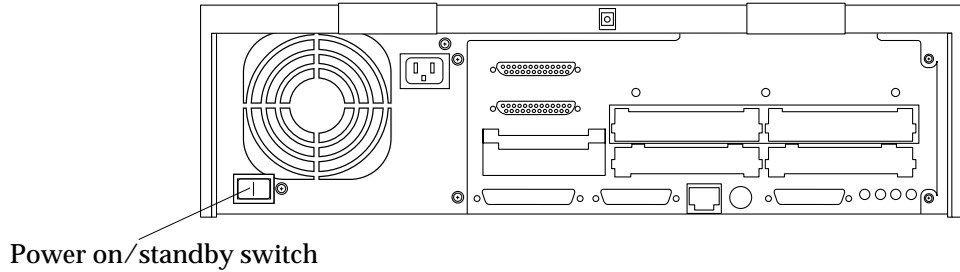

FIGURE 2-1 Rear View of an Ultra 2 System
6. Place the power on/standby switch to standby (⏻) (FIGURE 2-1).